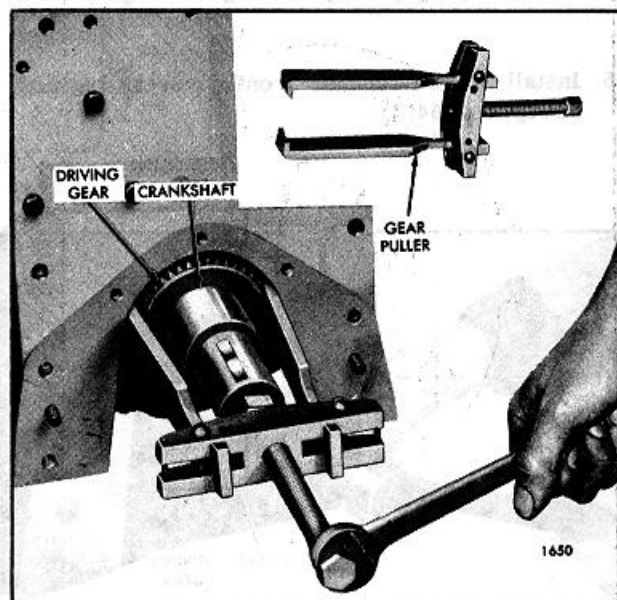

Fig. 8 - Removing Oil Pump Driving Gear from Crankshaft.
3. If required use puller J 3051 (Fig. 8) to pull